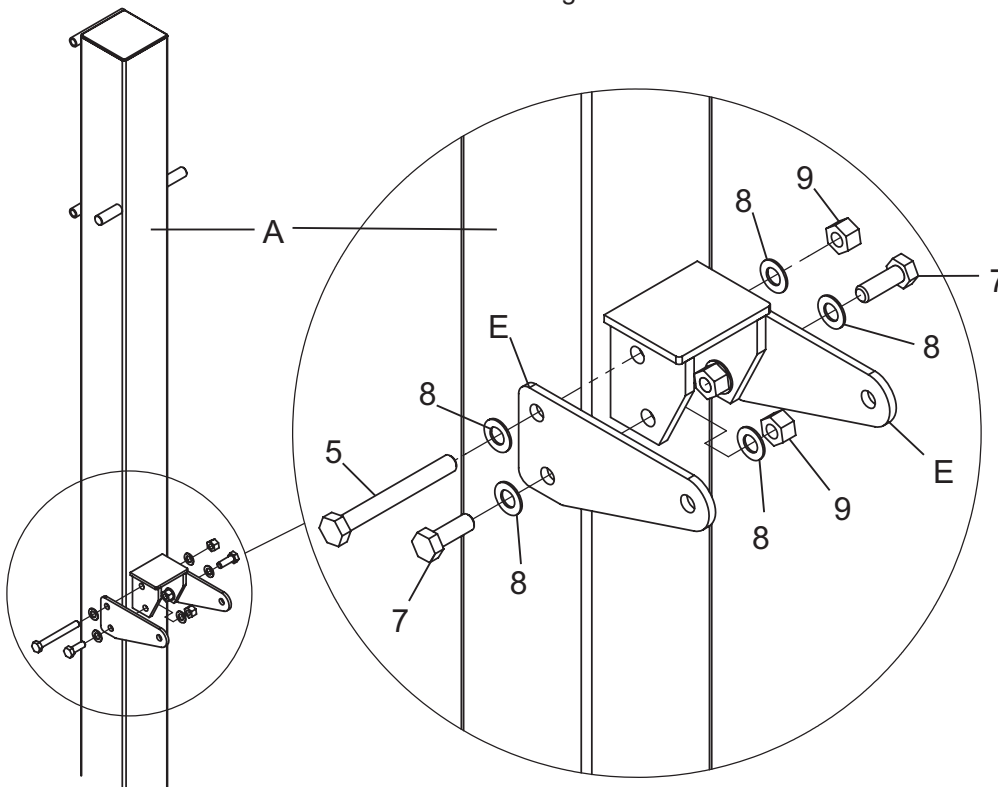

Figure6
2. Attach Actuator mounting plate (E) to Pole (A).
Secure Actuator mounting plate to the bracket welded on backside of Pole (E) with 2 Hex bolts M12x35 (#7), one Hex bolt M12x105mm (#5), 6 Flat washers M12 (#8), 3 Lock nuts M12 (#9). See **Figure 6**. Tighten all three nuts.